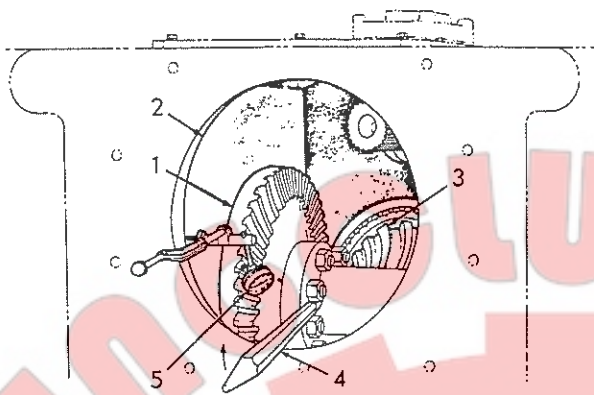

Fig. 11 Checking Backlash Between Bevel Gear and Bevel Pinion (T-70855)
a. Refer to Fig. 11; position dial indicator as shown. Block bevel pinion solid. Insert small pry bar and rotate gear back and forth; total gear movement (gear freeplay) as indicated by reading on dial indicator is backlash; if desired, dial indicator may be mounted so reading can be taken from bevel pinion. Check backlash at four points (90° apart) around gear; block bevel pinion solid each time if reading is being taken from bevel gear.